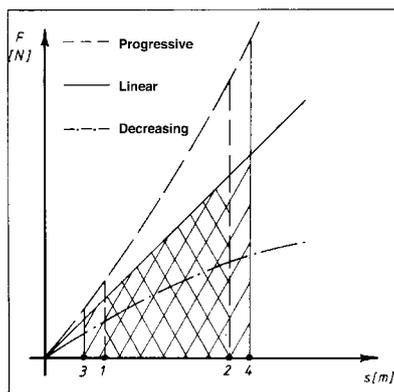

Figure 1: Spring characteristic curve-main diagram
A spring characteristic curve can be linear, progressive or degressive, in which latter case an instable spring would result. Fig. 1 shows the static and dynamic working range of a spring together with its work capacity, which is shown as the area bounded by the spring characteristic curve, the limits (3) and (4), and the X-axis. The dynamic working range overlaps the static, depending on the available dynamic spring travel (paths 1 - 3 and 2- 4).